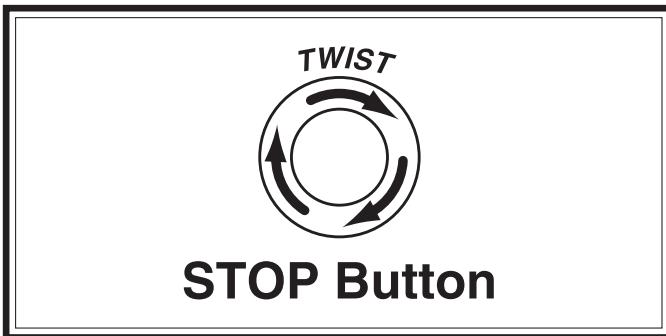

Figure 27. Resetting the switch.
- 5.** Twist E-Stop button clockwise until it springs out (see **Figure 27**). This resets the switch so machine can start.